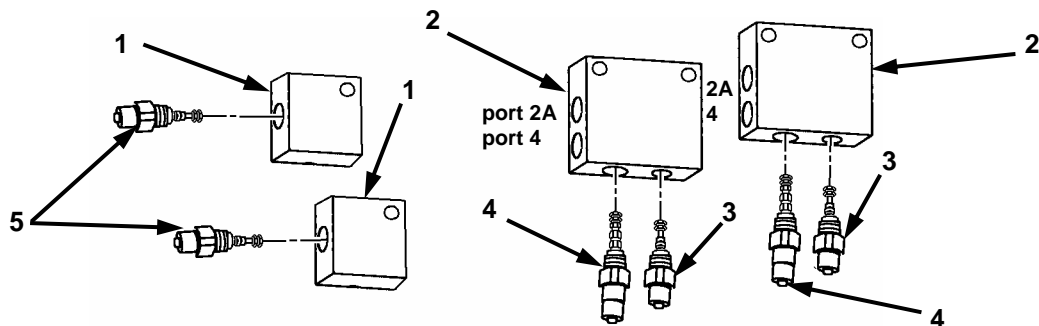

Figure 2-23. Valve Fittings (1 of 2).
- a. Install two flow valves FCCB LAV (2.0 GPM) (Figure 2-23, 5) to valve bodies GAI/S (1).